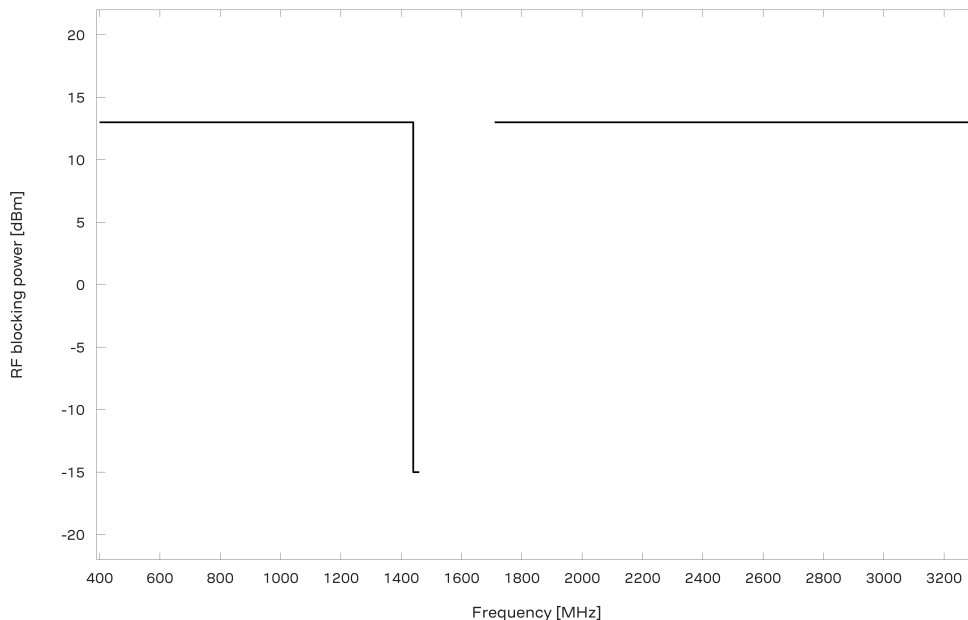

Figure 34: NEO-M9N out-of-band immunity level at 400 - 1460 MHz and 1710 - 3300 MHz. CW test signal is used.
Figure 34 shows a typical out-of-band immunity level for the NEO-M9N RF input. The measurement is done at room temperature using a continuous-wave (CW) test signal. The immunity limit is at constant +13 dBm apart from immediate proximity of the GNSS in-band at 1440 MHz. The integrated LTE band 13 notch and the SAW filters protect the RF input at 787 MHz region. For wide-band signals such as an LTE signal, the immunity may be reduced.